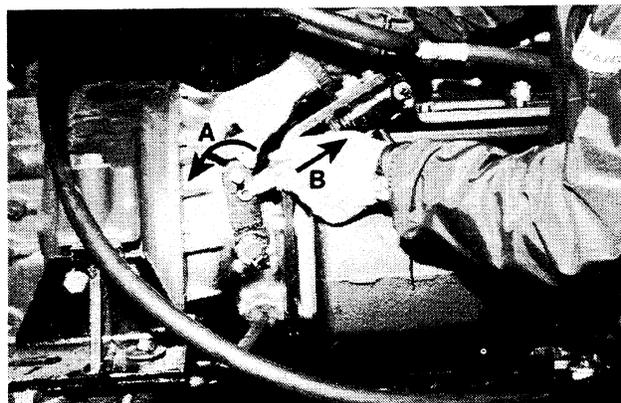

Figure 15:
4. Rotate the clutch cross shaft “counter-clockwise” until a slight resistance is felt. At the same time, push in on the slave cylinder actuator rod to “bottom” the slave cylinder piston. (Open the bleeder valve momentarily, if necessary. The slave cylinder piston must be fully retracted) (see Fig. 15).